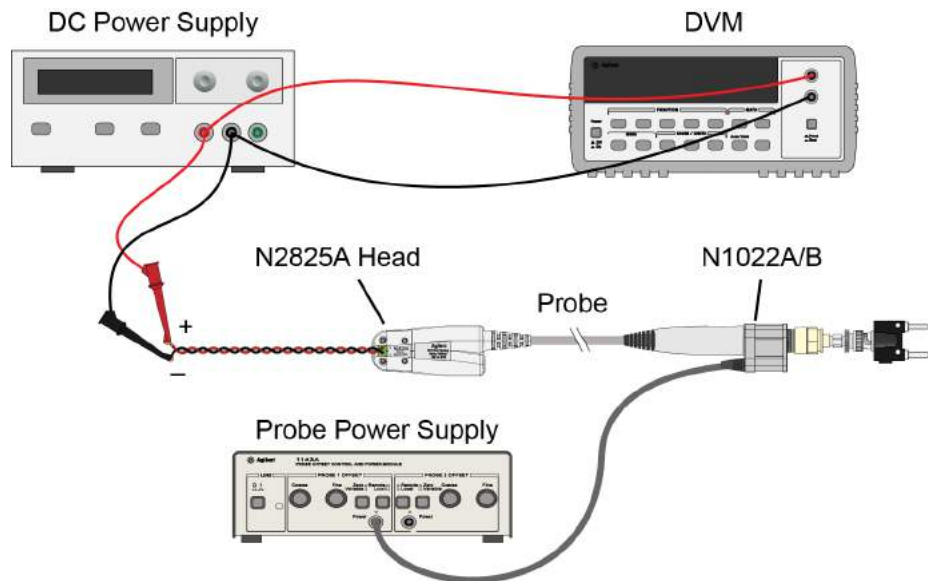

Figure 51 Test Setup for Measuring V_{in}
- 1 Snap an N2825A head onto the N2820/1A probe and connect the test equipment as shown in Figure 51. Be sure to connect the positive side of the DC supply to the red lead on the N2825A head.
- 8 Connect the multimeter on the DC power supply as shown in Figure 51 on page 103.